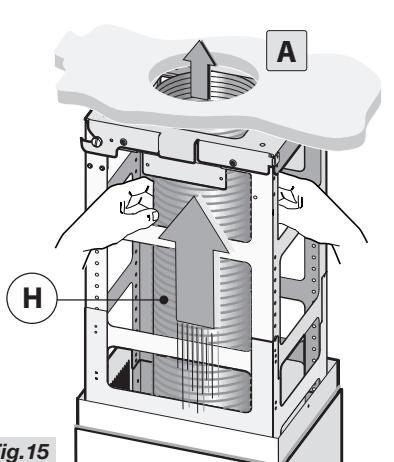

Fig. 15
- Connect the pipe **H** (not supplied) to the air outlet opening **A** (Fig.15).